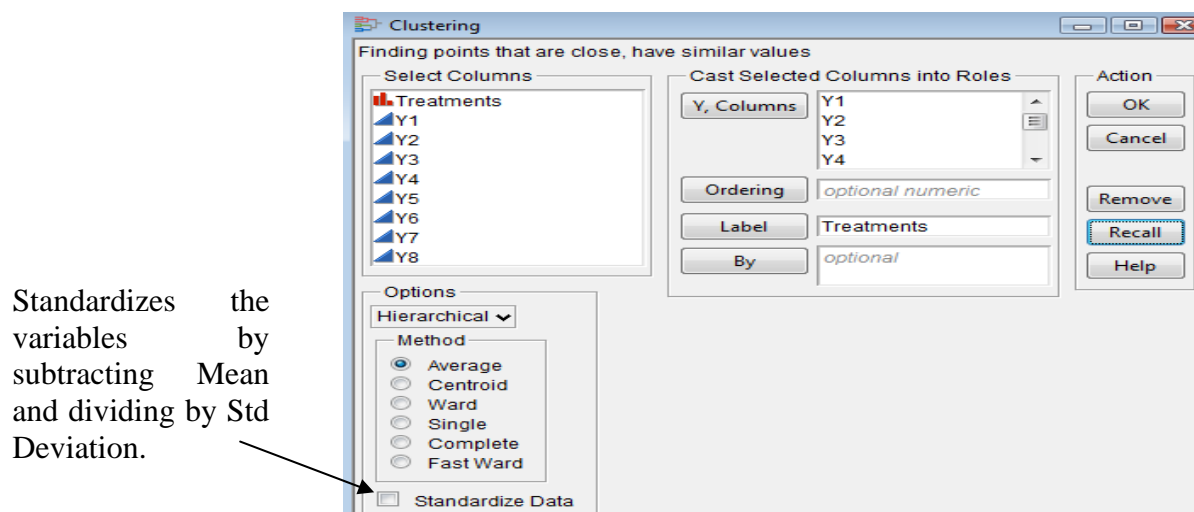

Figure 5.5.1: Clustering Dialog Box
3. Go to **Analyze** → **Multivariate Methods** → **Cluster** Select the variables y1, y2, y3, y4, y5, y6, y7 and y8 from **Select Columns** box → **Y, Columns**. Give **Treatments** → **Label** variable. Select **Method** → **Average**. See Clustering dialog box as in Figure 5.5.1. Uncheck **Standardize Data** → **OK**. The Distance is RMS (Root Mean Square) distance shown in the partial Clustering history output in Figure 5.5.4.